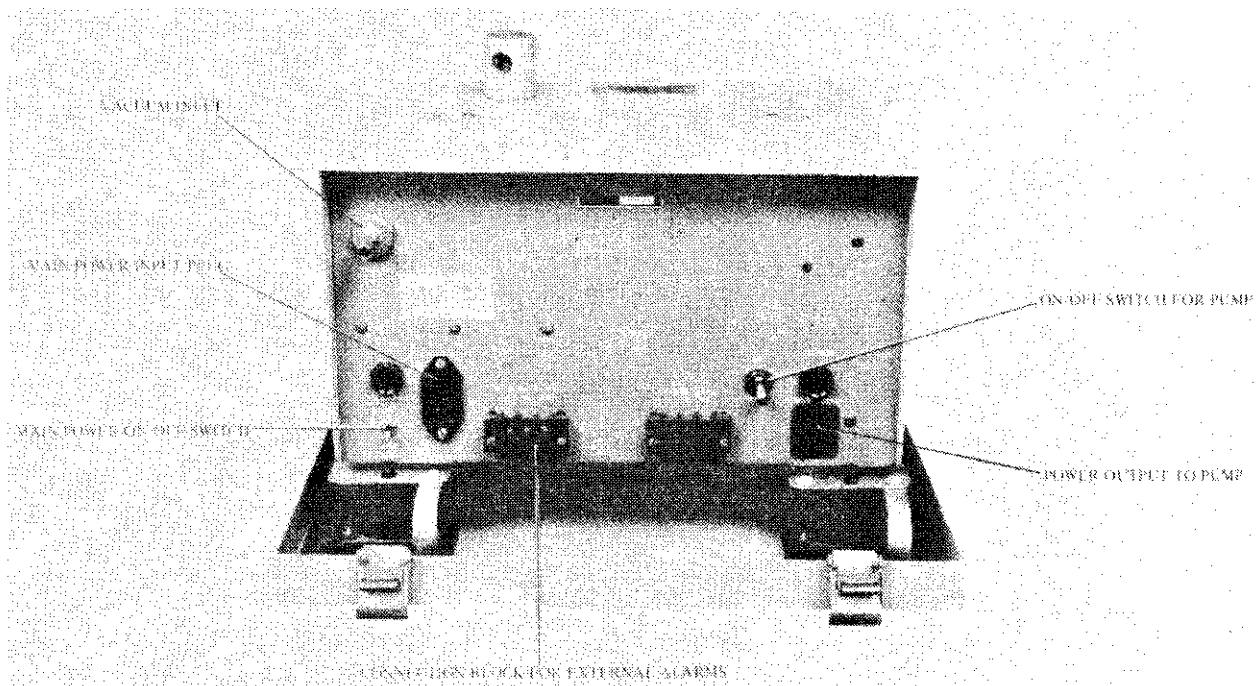

Fig. 2 Rear Panel controls and connections
- 3. Refer to fig. 2. Rear Panels controls and connections.